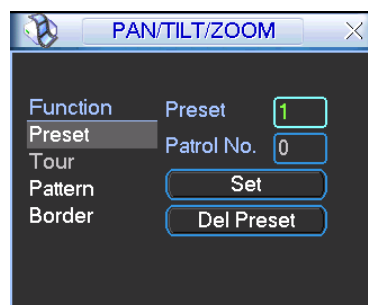
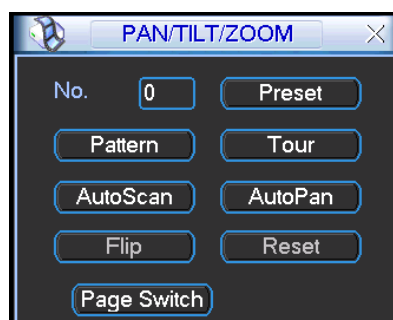

Figure 4-46
Figure 4-47
In Figure 4-43, please click the “set” button. The interface is shown as below. See Figure 4-46. Here you can set the following items:
In Figure 4-43, click page switch button, the interface is shown as in Figure 4-47. Here you can activate the following functions:
- The following setups are usually operated in the Figure 4-43, Figure 4-46 and Figure 4-47.
In Figure 4-46, click preset button and input preset number. The interface is shown as in Figure 4-48.
In Figure 4-47, please input preset number in the No. blank, and click preset button.
In Figure 4-46, input patrol (tour) number in the No. blank and click patrol button
In Figure 4-46, click pattern button and then click “begin” button. The interface is shown as in Figure 4-50. Then you can go to Figure 4-43 X to modify zoom, focus, and iris.
In Figure 4-47, click “Auto Scan” button, the system begins auto scan. Correspondingly, the auto scan button becomes Stop button. Click stop button to terminate scan operation.
In Figure 4-47, click page switch button, you can see an interface is shown as below. See Figure 4-52. Here you can set auxiliary function. The aux value has relation ship with the Aux button of the decoder.